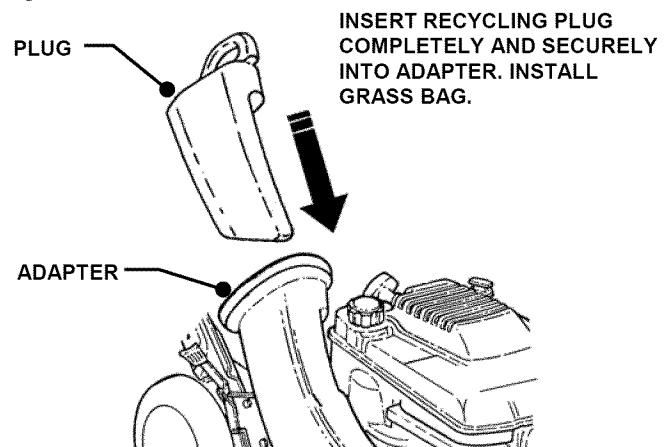

FIGURE 2.11
**STEP 1:** Once adapter has been installed, recycling may be desired. Insert recycling plug completely and securely into adapter. See Figure 2.11. Install grass bag as a safeguard.